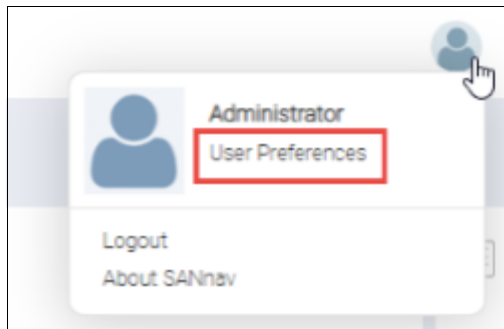

Figure 11-28 User Preferences
1. Click the user icon in the upper right of the window, and then, click **User Preferences** (see Figure 11-28).